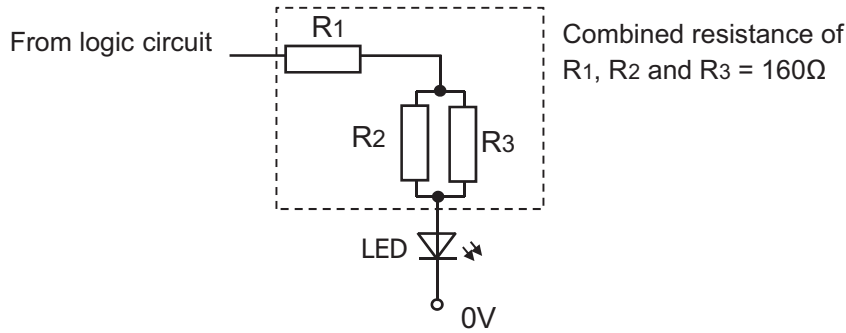
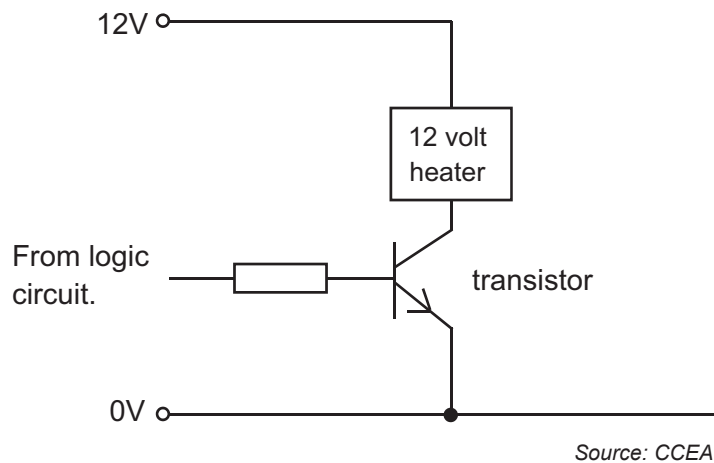

Fig. 1
Fig. 4
- 1 (a) The output from a logic circuit is to be connected to an LED as shown in **Fig. 1**. The calculated value for a protective resistor is unavailable, so a number of resistors have been combined as shown to give the required calculated value of 160 ohms.
- (i) Calculate the required value for R3 in **Fig. 1** to give a combined resistance of 160 ohms if R1 and R2 each have a value of 100 ohms.
- (ii) Calculate the total maximum power in mW that could be dissipated by the resistors R1, R2 and R3 in **Fig. 1** if the LED operates at a forward voltage of 2 volts. Assume the voltage from the logic circuit is 6V, the combined resistance of R1, R2 and R3 is 160 ohms and they each have a stated tolerance of +/- 10%.
- (b) The LED in **Fig. 1** is illuminated by the output F from a logic circuit that has three inputs A, B and C as shown in **Fig. 2**.
- (c) The LED shown in **Fig. 1** is connected to the output of the logic circuit shown in **Fig. 2** and is to be replaced by a transistor and heater arrangement as shown in **Fig. 4**.